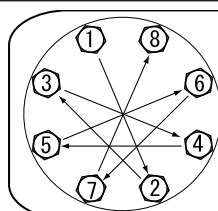

Fig.5.12
- Tighten the bolts gradually in a diagonal sequence with even torque. [Fig.5.12].
- Keep the convex side to the outside (cf. Fig.5.12).
- Put the O rings to both sides of the diaphragm. (cf. Fig.5.12)